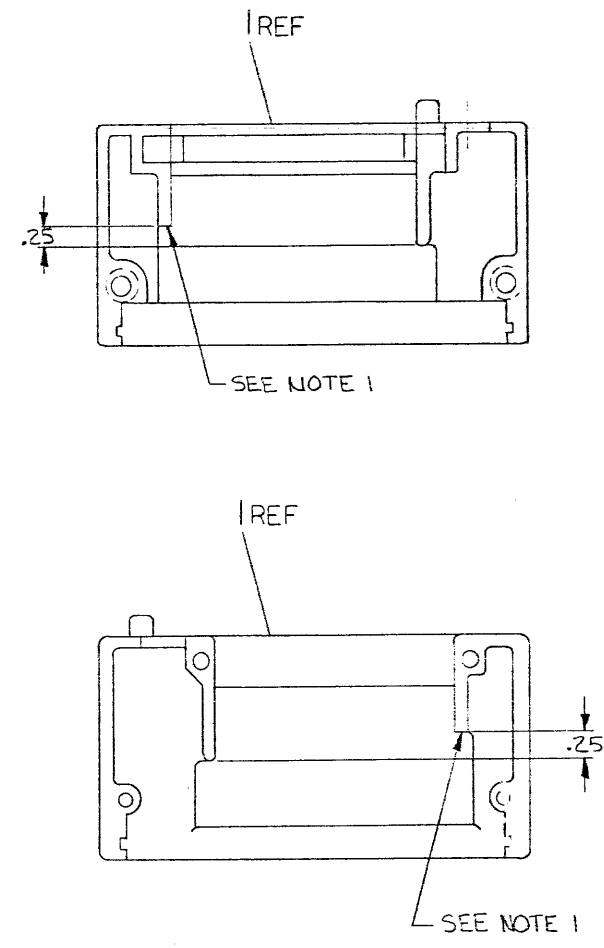

FIG. 1
1. IF ITEM #3 HAS "BERG" TYPE CONNECTORS CUT BACK PLASTIC PIECES SHOWN IN FIG 1.